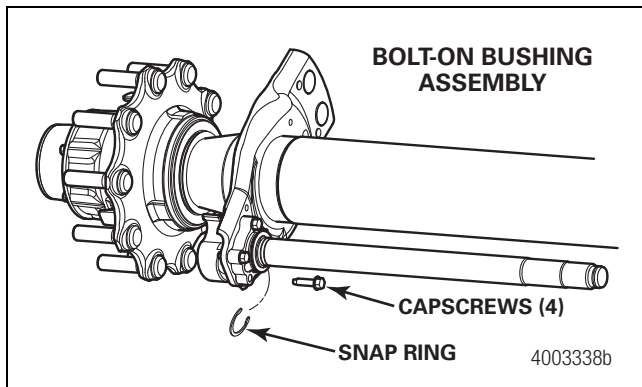

Figure 11.57
2. Remove the snap ring at the inboard side of the bushing housing and the four capscrews from the bushing housing. Figure 11.57.